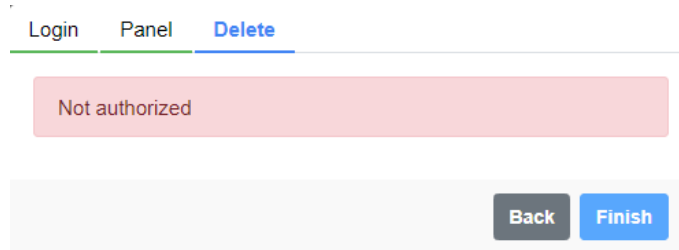

Figure 6.17: Failed to unlink the Drive Scan from the MFM
**Step 15** If successful, proceed to **Step 16**. If an error message pops up (Figure 6.17), check its content and click on: